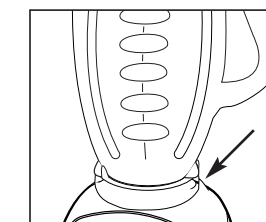

FIGURE 6
7. **Line up tabs of jar with tabs on blender base.** Make sure the tab of the jar on the left side is in the back of the tab of the blender base and the tab of the jar on the right side is in front of the tab of the blender base. Make sure jar is seated into position. (Figure 6)